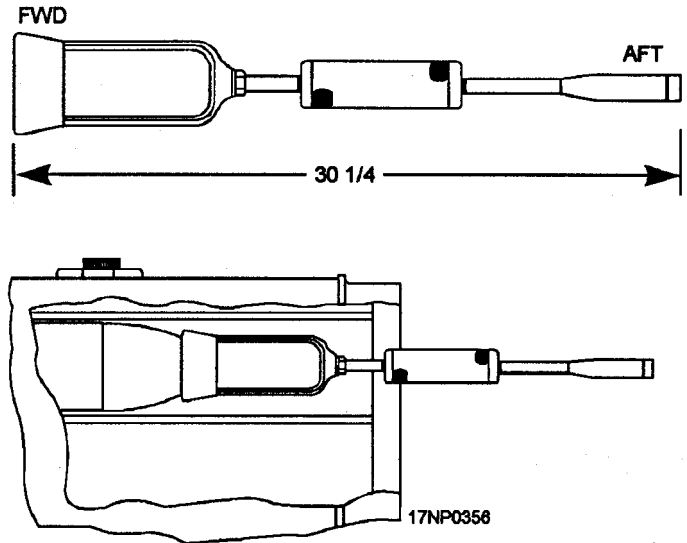

Figure 13-26.—Rocket loading and release tool.
8. Slowly push the rocket into the tube by using rocket loading and release tool (fig. 13-26) until detent snaps into position in detent groove.